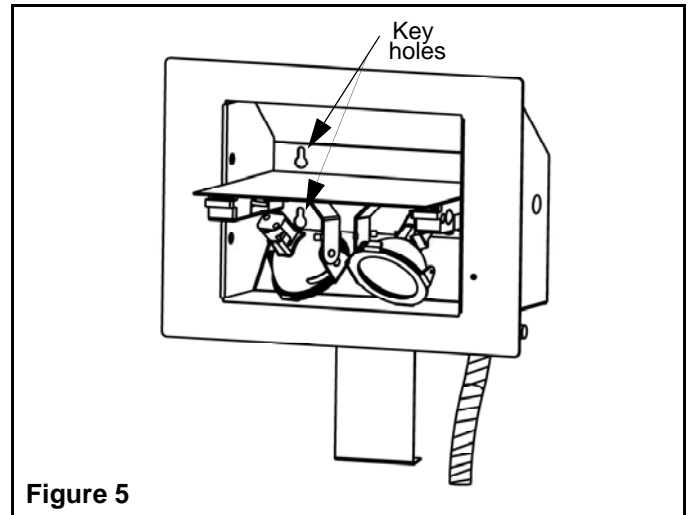

Figure 5
15. Force the door of the lamp module half-open to hold the unit and locate the four key holes in its housing (see Figure 5).